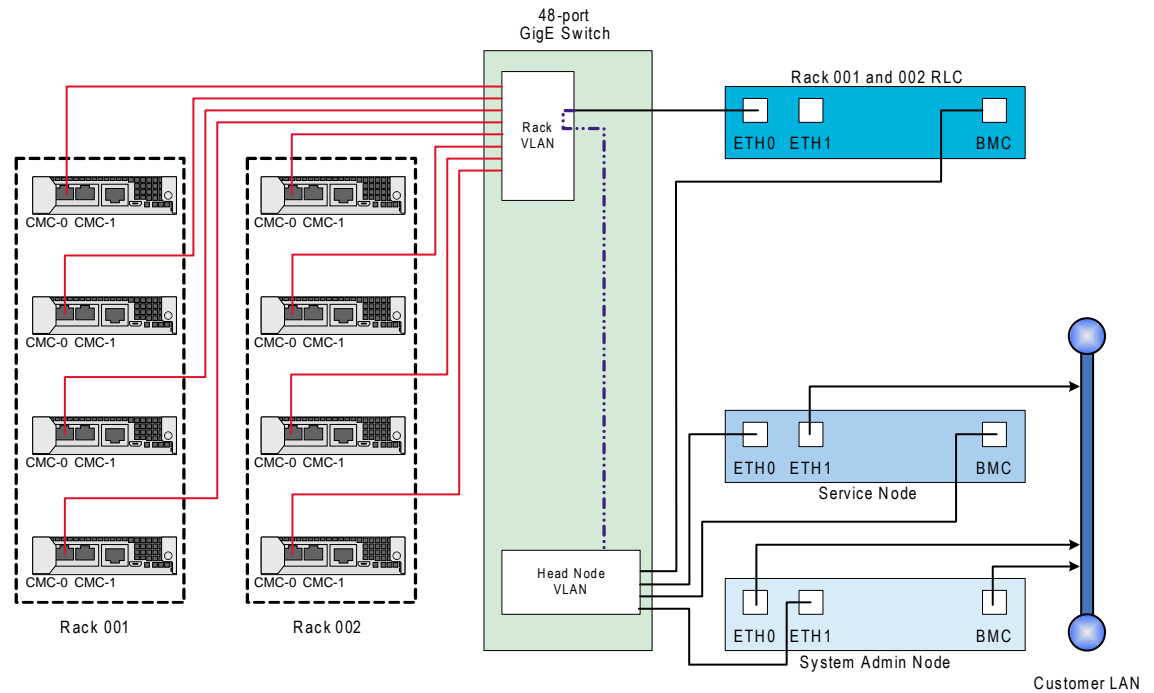

Figure 3-2 Simple CMC LAN (VLAN) Cable Examples
2. Disconnect both power cables, see Figure 3-2 on page 130 for server connection locations.